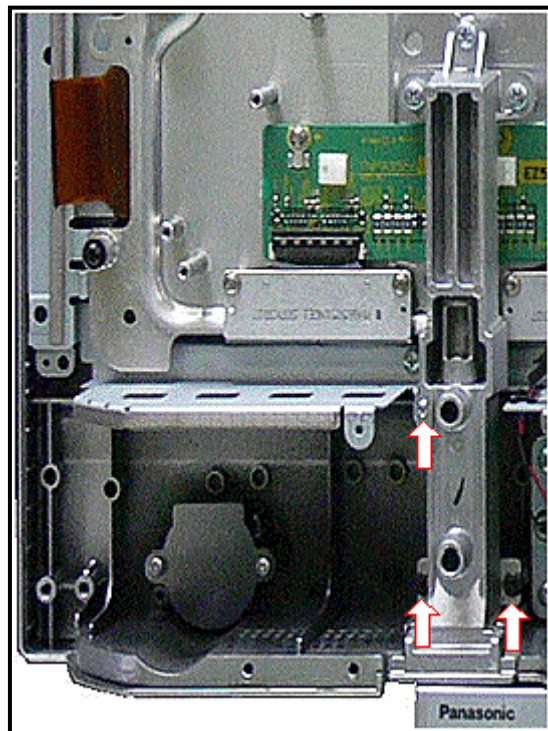

Figure 35. Left Stand Bracket
6. Install the three screws of the left stand bracket as indicated in figure 35.